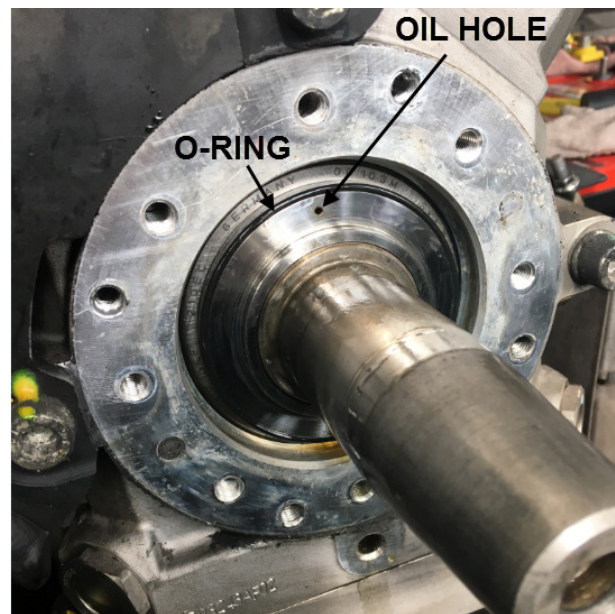

FIGURE 31: BEARING SEALING PLATE O-RING & OIL HOLE LOCATION
8. Reinstall the bearing sealing plate on the compressor (figure 31).